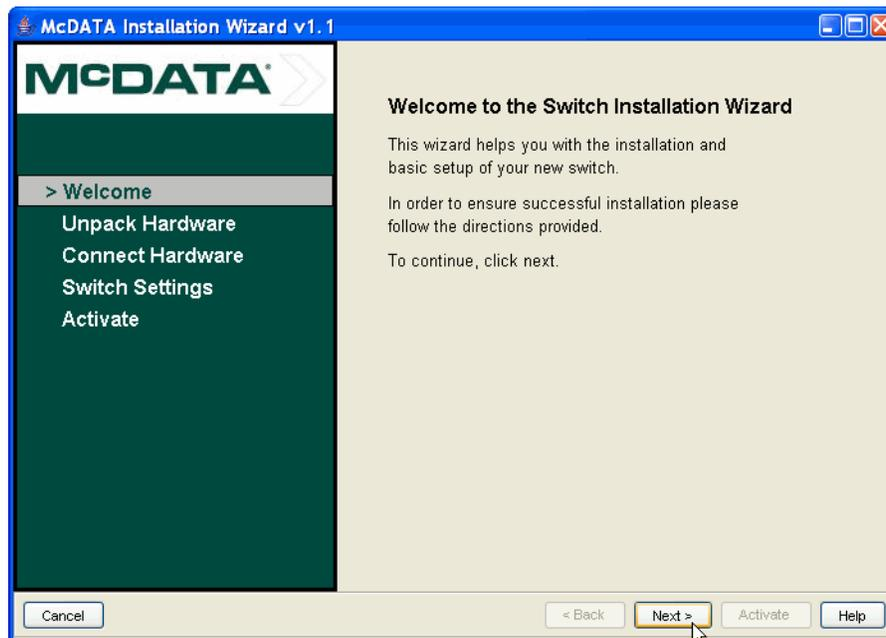

Figure 16 SANplicity wizard welcome screen
1. If necessary, unzip the file and launch the wizard from the .jar file. This launches the welcome screen shown in Figure 16.